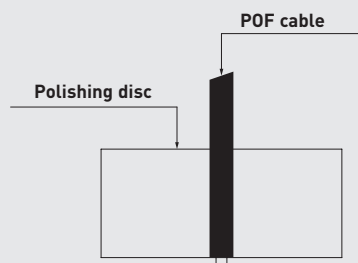

Fig. 3 - Polishing Disc with Guide for POF fibre
- Before crimping, insert POF fibre optic into the polishing disc (CLDL DD) as shown in Fig. 3.